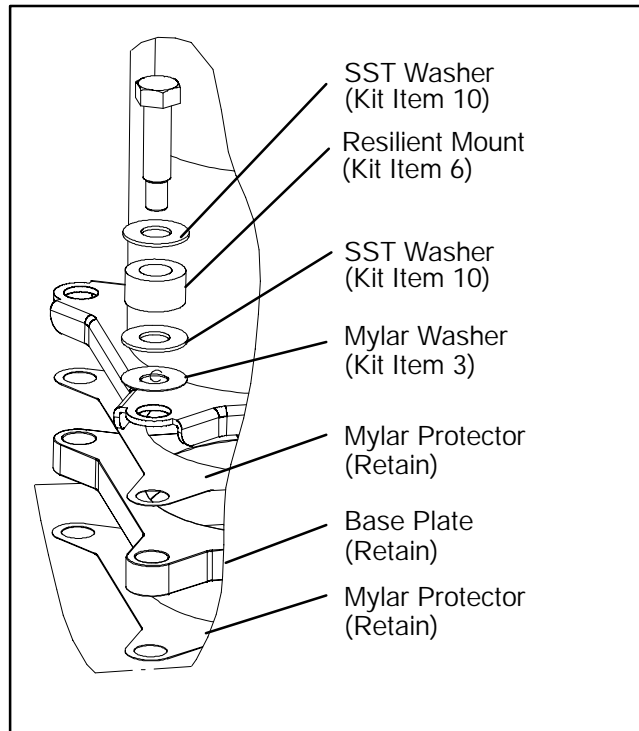

Figure 6-8 Compressor Lower Mounting
- k. Remove the lower mounting bolts and hardware (see Figure 6-8). Using plugs from replacement compressor, plug connections on old compressor. Remove the old compressor from the unit by tilting the top to the right, and sliding the compressor base to the left until it is clear of the cross beam. Refer to paragraph 2.2 for compressor weight. Return plugs to replacement compressor.